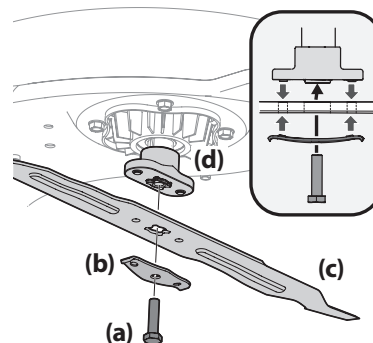

Figure 23
3. Remove the hex screw (a) and the blade bell support (b) which holds the blade (c) and the blade adapter (d) to the deck motor. See Figure 23.
4. Remove blade (c) and adapter (d) from the deck motor spindle. See Figure 23.